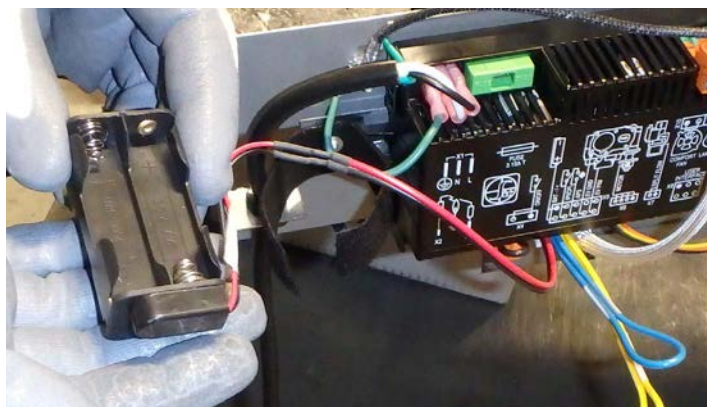

Figure 20.6.03:
6. Replace the batteries. See **Figure 20.6.03**.